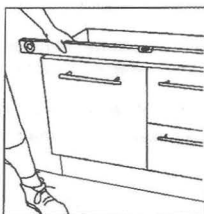
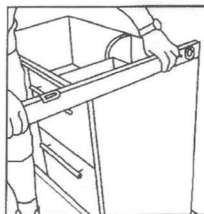

Fig.3
Fig.4
6. Check with spirit level that the vanity unit is **completely level** (fig.3 and fig.4)